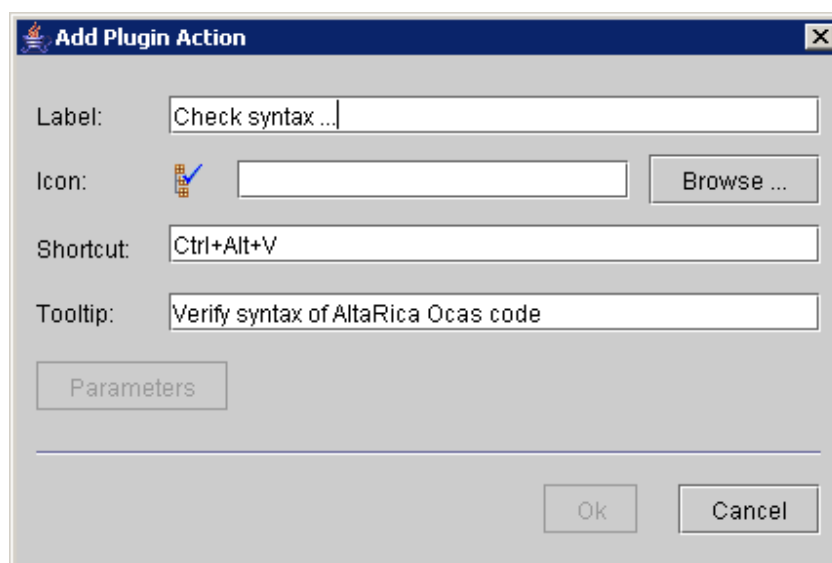

Figure 171 : Add a plugin action
- Click on the **Add** button; the following window then appears (Figure 171):